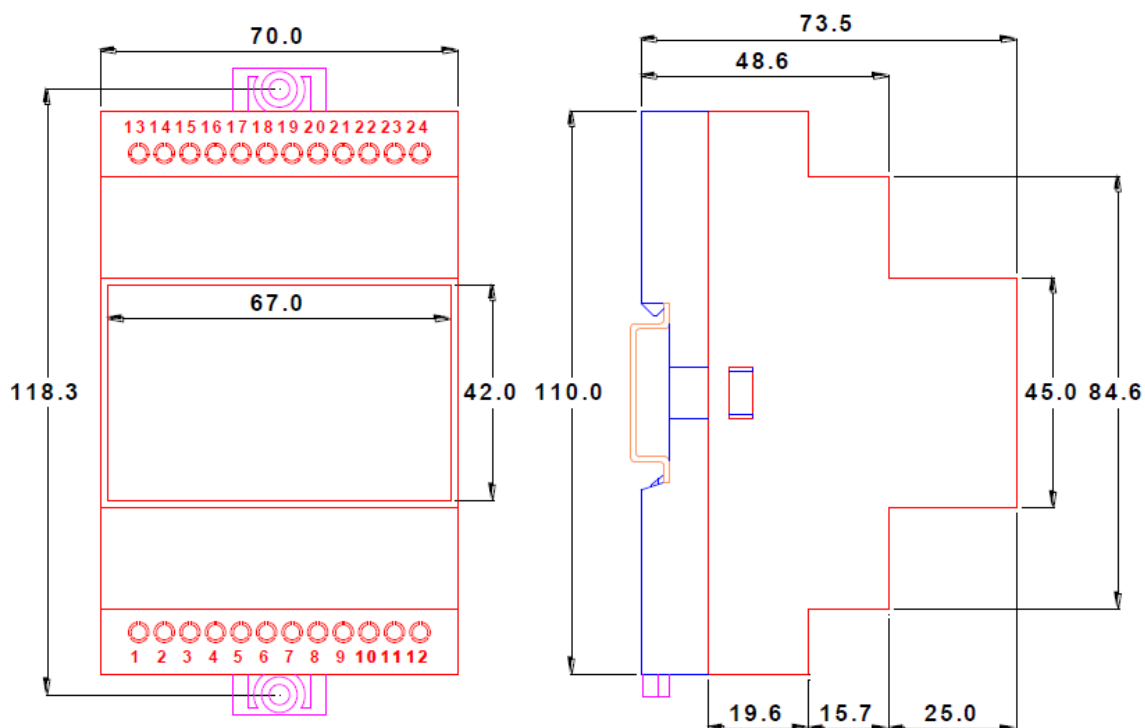

Figure 2: Board Dimensions
- For more details on dimension of the board, please refer to Figure 2.